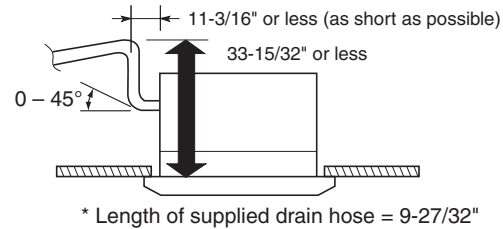

Fig. 3-9
- In cases where it is necessary to raise the height of the drain piping, the drain piping can be raised to a maximum height of 33-15/32" above the bottom surface of the ceiling. Under no conditions attempt to raise it higher than 33-15/32" above the bottom surface of the ceiling. Doing so will result in water leakage. (Fig. 3-9)